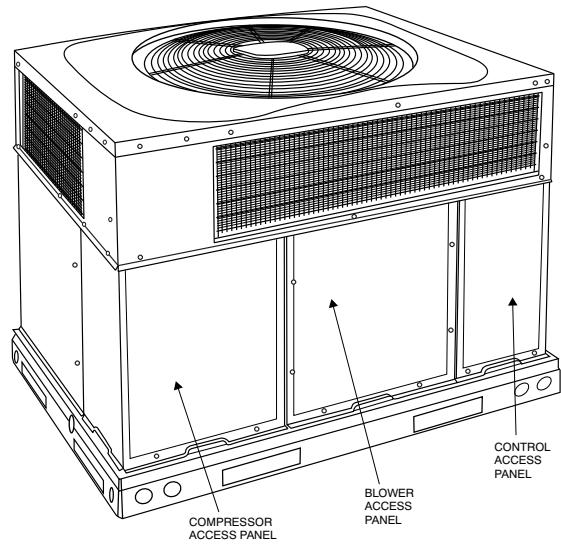

Fig. 25 – Unit Access Panels
- a. Remove blower access panel (see Fig. 25).
- g. Reinstall blower access panel (see Fig. 25).
Remove blower access panel (see Fig. 25). Limit switch is located on the fan partition.
Remove access panels (see Fig. 25) to locate all the electrical controls and wiring. Before working with or handling any electrical components, make sure that all capacitors are properly discharged to avoid possibility of sparking. Replace components only with parts specified by the manufacturer. Other parts may result in the ignition of refrigerant in the atmosphere from a leak. Check all electrical connections for tightness. Tighten all screw connections. If any smoky or burned connections are noticed, disassemble the connection, clean all the parts, re-strip the wire end and reassemble the connection properly and securely.